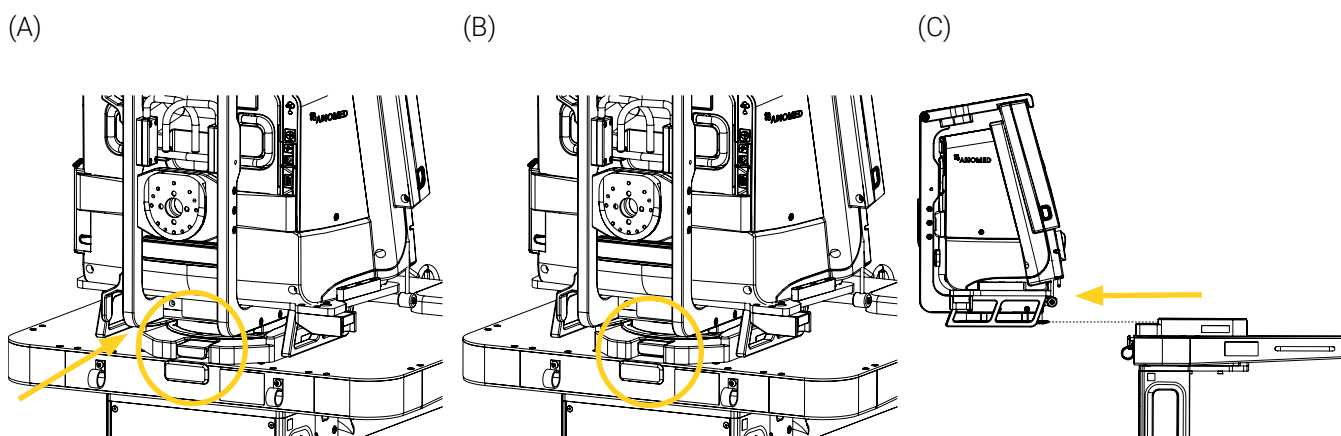

Figure 44: Removing the medical device from the Standard Surface Base/Micro Base
1. Press and hold the quick-release button located at the front of the Standard Surface Base/Micro Base, pull on the medical device horizontally out of the base (Figure 44), then release the quick-release button. Refer to the « Deactivate the Safety Mechanism of the Standard Surface Base/Micro Base » section on page 34 and the Standard Surface Base/Micro Base's User Manual if needed.